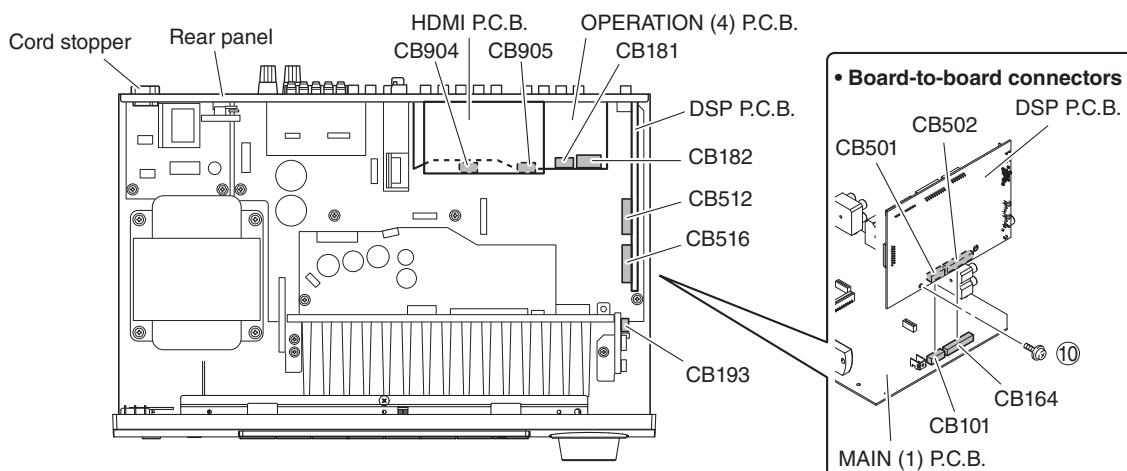

Fig. 2
- Remove CB904 and CB905. (Fig. 2)
- Remove the HDMI P.C.B.. (Fig. 2)
4. Removal of OPERATION (4) P.C.B.
- Remove CB181-182 and CB193. (Fig. 2)
- Remove the OPERATION (4) P.C.B.. (Fig. 2)
- Remove the cord stopper. (Fig. 2)
- Remove the rear panel. (Fig. 2)
- Remove screw (⑩). (Fig. 2)
- Remove CB512 and CB516. (Fig. 2)
- Remove the DSP P.C.B. which is connected directly to the MAIN (1) P.C.B. with board-to-board connectors. (Fig. 2)